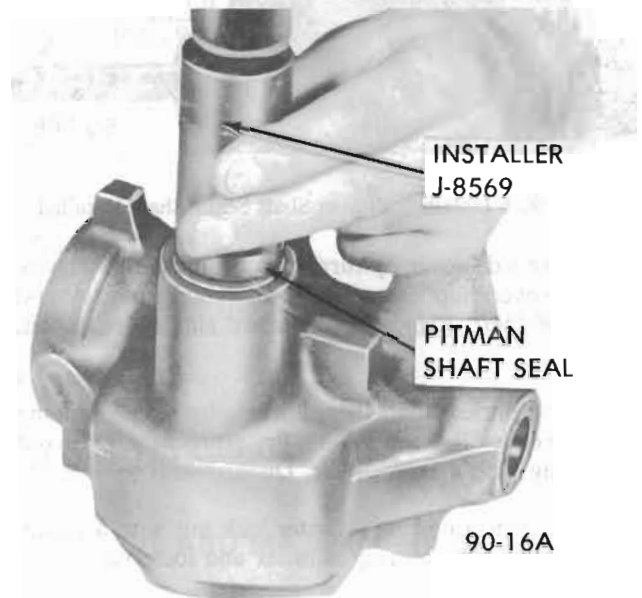

Figure 90-10 Installing Pitman Shaft Seal
8. To protect pitman shaft seal from damage, cover shaft splines with masking tape. Slide new seal into place and seat seal flush with surface of housing using Installer J-9540. See Figure 90-10.